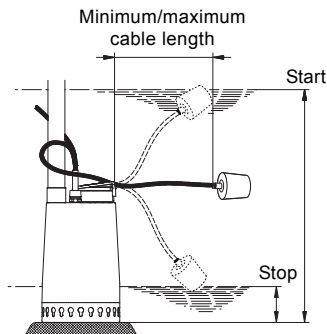

Fig. 5 Start and stop levels
2. For pumps with a float switch, check that the float switch will allow the pump to pump down to the chosen level according to fig. 5. If you want to pump below this level, hold the float switch in vertical position.